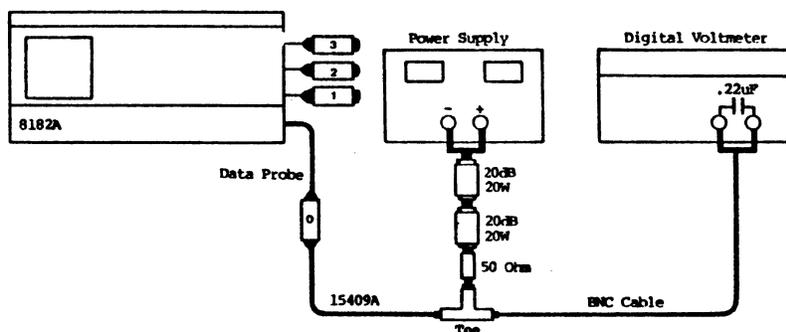

Figure 4-7 Linearity Test Setup
8. Connect equipment as shown in figure 4-7 and press RUN.